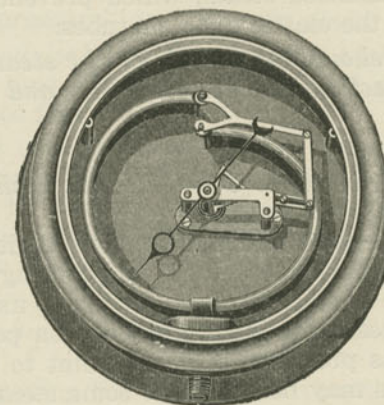

Fig. 98. Interior of Crosby-Bourdon Steam-gage.
A. There is the Bourdon type, in which the pressure is made to straighten more or less a curved flattened elastic metal tube. (Fig. 98.)